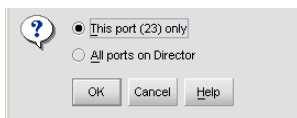

Figure 25 Clear Threshold Alert(s) dialog box
- **Clear Threshold Alert(s)**—Click the **Clear Link Threshold Alert(s)** option on the port's right-click menu on the Port Card view and the Port List view to display the Clear Threshold Alert(s) dialog box as shown in Figure 25. Click the appropriate option to clear alerts for the selected port only or all ports on the director. This clears all attention indicators that notify users of threshold alerts in dialog boxes and views. This action also restarts the notification interval and the cumulative minutes for utilization% interval.